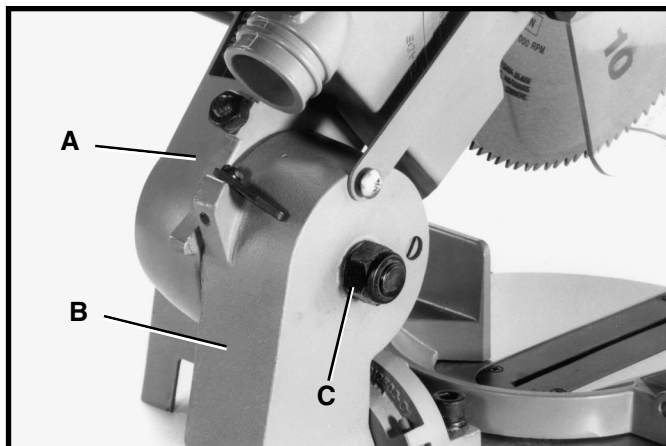

Fig. 30
2. To adjust the sliding fit between the arm (A) Fig. 30, and bracket (B), tighten or loosen the adjusting nut (C). Correct adjustment is when a good snug sliding fit is obtained without any side movement between the arm (A) Fig. 30, and bracket (B). This adjustment should not be too tight that it restricts the sliding movement or too loose that it affects the accuracy of the saw cut.